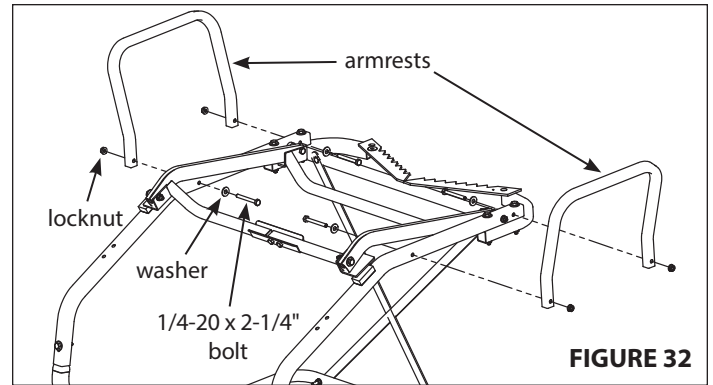

FIGURE 32
8. Attach the armrests (18710) to the side rails using (4) 1/4-20 x 2-1/4" bolts, locknuts and steel washers. **SEE FIGURE 32. You must now tighten all nut and bolt assemblies. Be sure not to over tighten or crush tubing when tightening!**